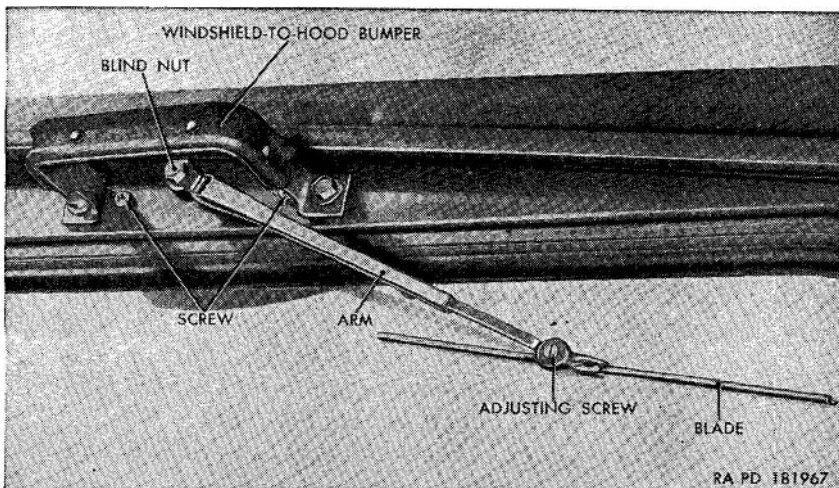

Figure 186. Windshield wiper blade and adjustable arm assemblies—installed.
a. *Windshield wiper blade assembly* (fig. 186).
- (1) *Removal.* Lift up on the windshield wiper adjustable arm assembly. Lift the lower end of the windshield wiper blade assembly to unlock the blade from the arm. Remove the blade.
- (2) *Installation.* Lift the windshield wiper adjustable arm up. Hook the windshield wiper blade, upside down into the arm, push the lower end of blade toward windshield, and lock blade in position. The position of the blade can be adjusted by loosening the adjusting screw at the end of the arm, setting blade in desired position, and tightening the screw.
b. *Windshield Wiper Adjustable Arm Assembly* (fig. 186).
- (1) *Removal.* Remove the windshield wiper blade assembly (a(1) above). Unscrew the blind nut securing the wind-
tee for left motor and windshield wiper-to-center line for right motor) (E and K) from the fitting on the windshield wiper vacuum motor assembly (F and L). Remove one lockwasher screw from the windshield-to-hood bumper assembly (fig. 186), loosen the other lockwasher screw, and let one end of the bumper drop to permit removal of the screws securing the motor. Remove the two internal-teeth lockwasher screws securing the motor to the windshield frame. Remove the two windshield wiper mounting spacers and remove the motor from the frame.
- (2) *Installation.* Working inside the vehicle, insert the serrated shaft of the paddle within the windshield wiper vacuum motor through the hole in the windshield frame. Slide the hose (windshield wiper-to-tee for left motor and windshield wiper-to-center line for right motor) (E and K) onto the fitting on the motor. Working outside the vehicle, insert two No. 10-32NF-2 x 7/8 internal-teeth lockwasher screws into the windshield frame. From the inside of the windshield frame, insert one windshield wiper mounting spacer on each screw and screw into the motor. Secure the windshield-to-hood bumper (fig. 186) to the windshield frame with two 1/2 x 1/2 lockwasher screws. Install the windshield wiper adjustable arm (*b* (2) above). Install the windshield wiper blade (*a* (2) above). Start engine and check motor for proper operation.